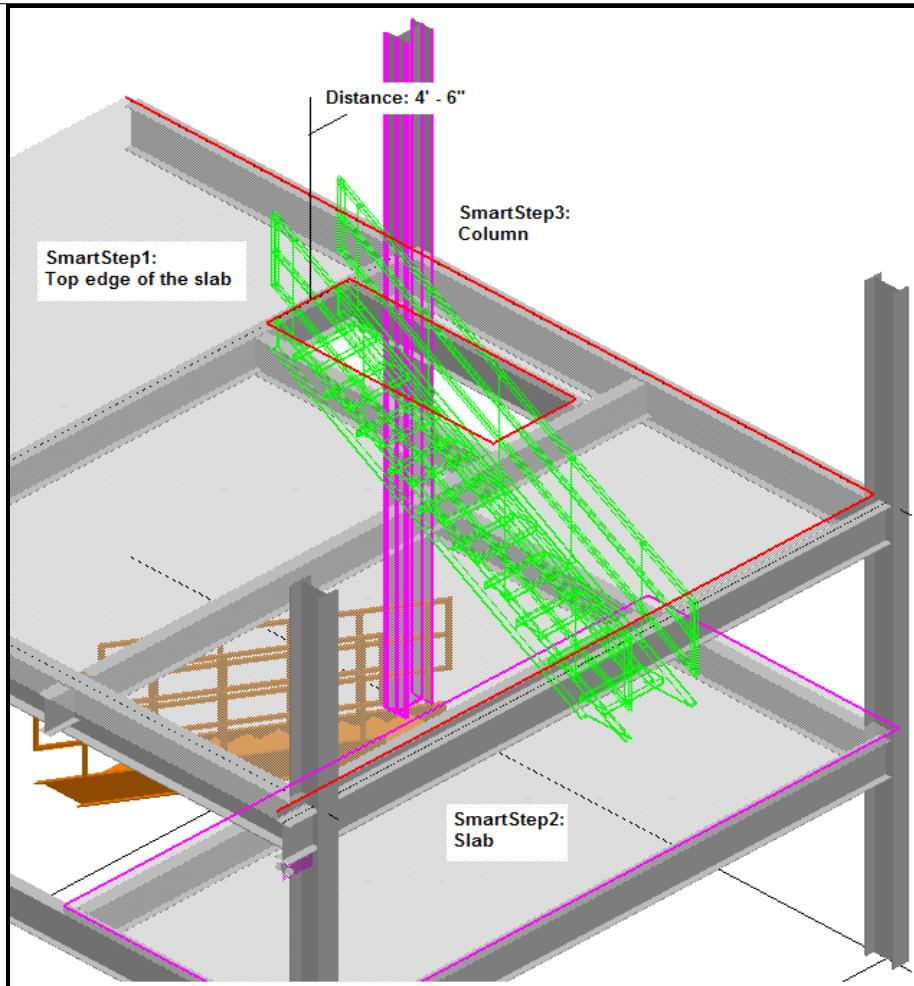

Figure 2 – ISO View of the second stair
12. Select the top edge of the slab as shown in Figure 2. This defines the top elevation of the stair.